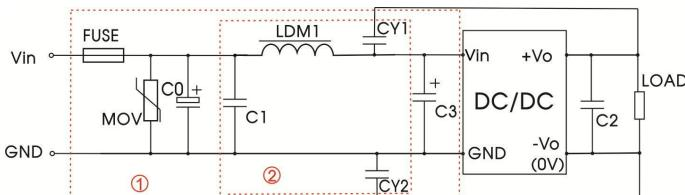

Fig. 3
Notes: Part ① in the Fig. 3 is used for EMC test and part ② for EMI test